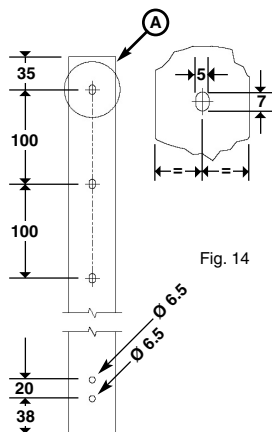

Fig. 14
- Perform the 3 slots and the 2 holes with diameter of 6.5mm on the upright **A** that will host the vertical rod of the ARIETE system (Fig.14).